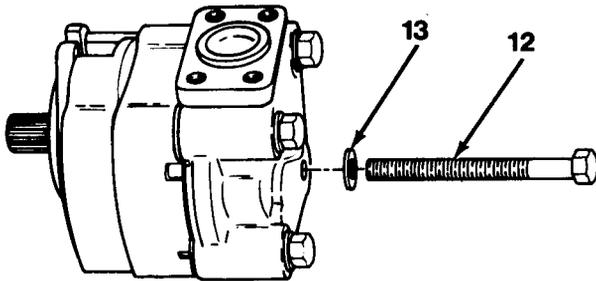

Figure 13-2
1. Remove four cap screws (12) and washers (13, Figure 13-2).